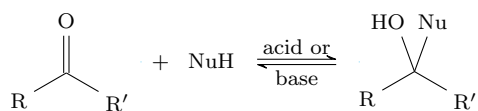

Figure 1.7: The key mechanism in CHEM 22200.
- The two(-ish) most important mechanisms in CHEM 222 are Figure 1.7 promoted either by acid or base.